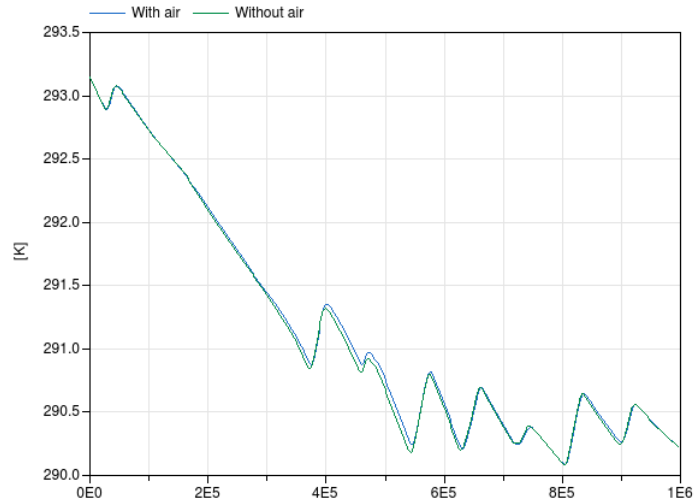

Figure 5: Wall temperature in K as function of time in seconds, with and without air model.
**Reference result** The result with and without the air model is plotted in Figure 5.